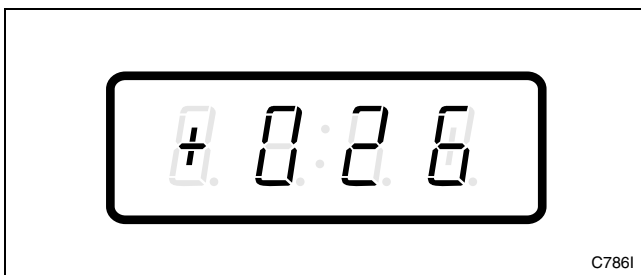

Figure 109
3. Press the DELICATES (+) or the COLD (-) keypad to scroll through the programmable options until “+026” appears in the VFD. Refer to *Figure 109*.